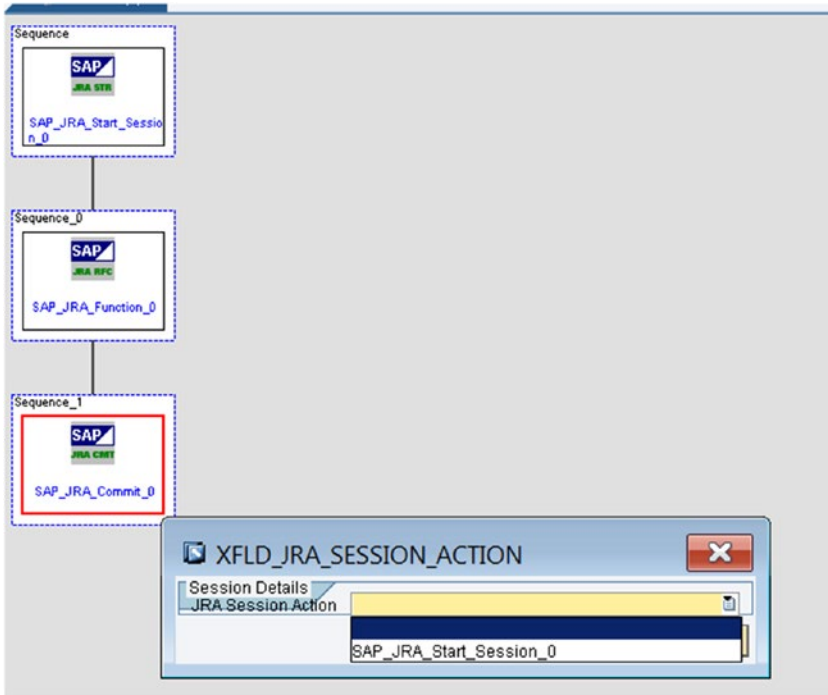

Figure 7-165. JRA commit action block and its configuration
- SAP JRA Commit:** This action performs a commit function during a session between SAP MII and SAP ERP Central Component (SAP ECC) using the SAP Java Resource Adapter (SAP JRA). See Figure 7-165.